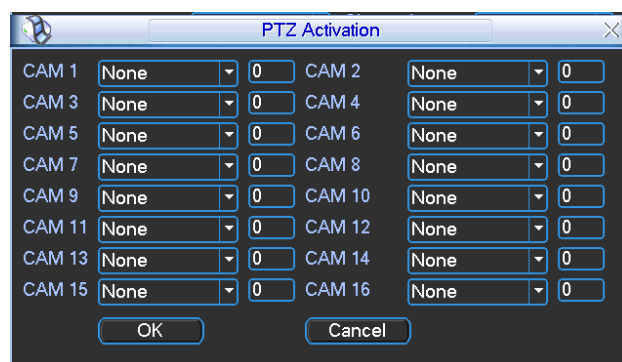

Figure 4-26
- PTZ activation: Here you can set PTZ movement when an alarm occurs. Such as go to preset, tour & pattern when there is an alarm. Click “select” button, you can see an interface is shown as in Figure 4-26.